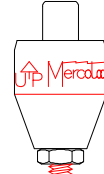

Fig 1
1. Mercotac® connectors can be used both horizontally and vertically. However the "UP" arrow on the body of the connector should not point below horizontal. It is preferable to store units upright (arrow up). <Fig 1>